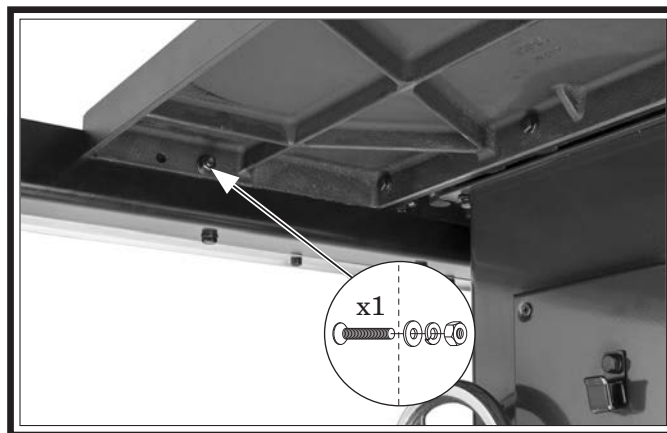

Figure 21. Front rail to extension wing attachment location.
- Fasten rear rail onto extension table with (1) M8-1.25 x 25 cap screw, (2) 8mm lock washer, (1) 8mm flat washers, and (1) M8-1.25 hex nut.
- Fasten front rail onto extension table as shown in **Figure 21** with (1) M8-1.25 x 25 flat head cap screw, (1) 8mm lock washer, and (1) M8-1.25 hex nut.